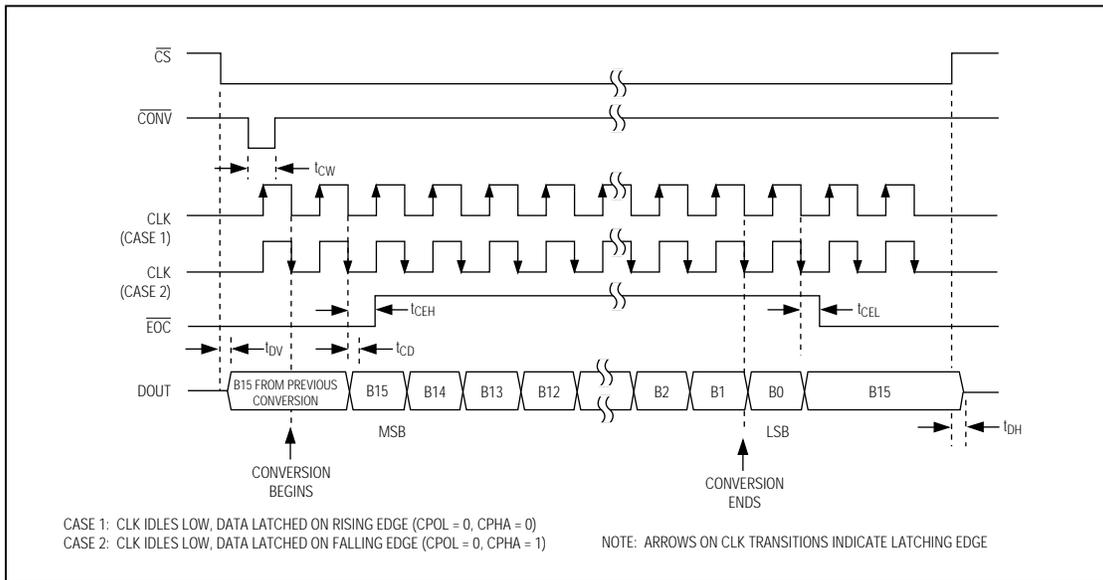

Figure 6. Output Data Format, Reading Data During Conversion (Mode 1)
**If you read the serial data bits as they are determined,**  $\overline{EOC}$  frames the data bits (Figure 6). Conversion begins with the first falling CLK edge, after  $\overline{CONV}$  goes low and the input signal has been acquired. Data bits are shifted out of DOUT on subsequent falling CLK edges. Clock data in on CLK's rising edge or, if the clock speed is greater than 1MHz, on the following falling edge of CLK to meet the maximum CLK-to-DOUT timing specification. See the *Operating Modes and SPI/QSPI Interfaces* section for additional information. Reading the serial data during the conversion results in the maximum conversion throughput, because a new conversion can begin immediately after the input acquisition period following the previous conversion.